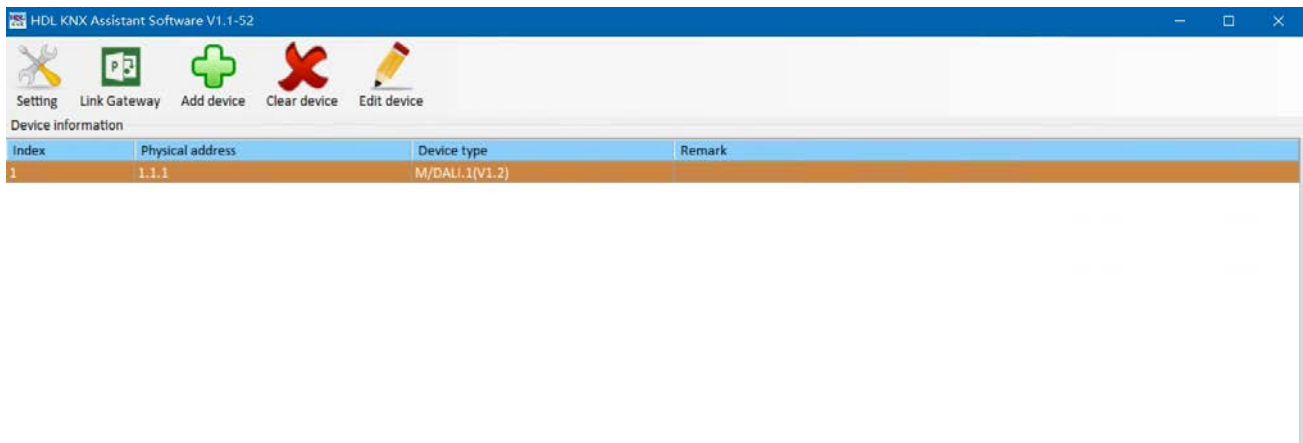

Figure 2-1 Click “Link Gateway”
2. As shown in Figure 2-1, click “Link Gateway” to enter the configuration page.